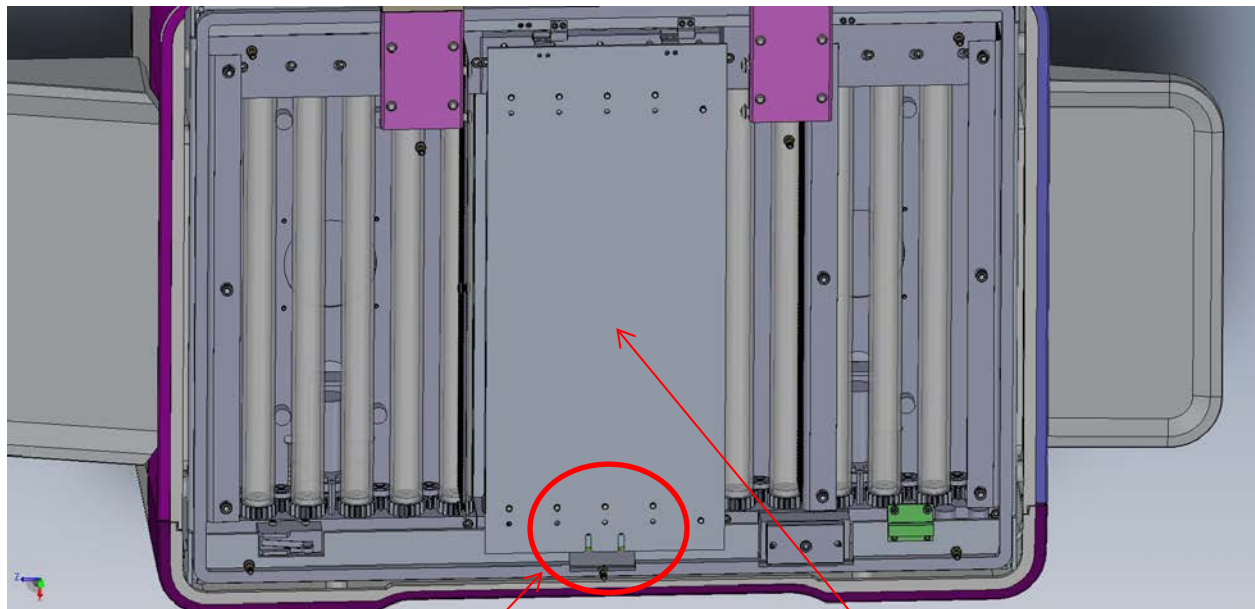

FIGURE 7.UV MODULE DETAILS
g) If the hand-held device is inside the UV section as shown in figure 7, open the UV lid as shown.
WARNING: DO NOT TOUCH THE UV-C LAMPS. (FIGURE 7)
WARNING: DO NOT TOUCH THE UV ROLLERS. (FIGURE 7)